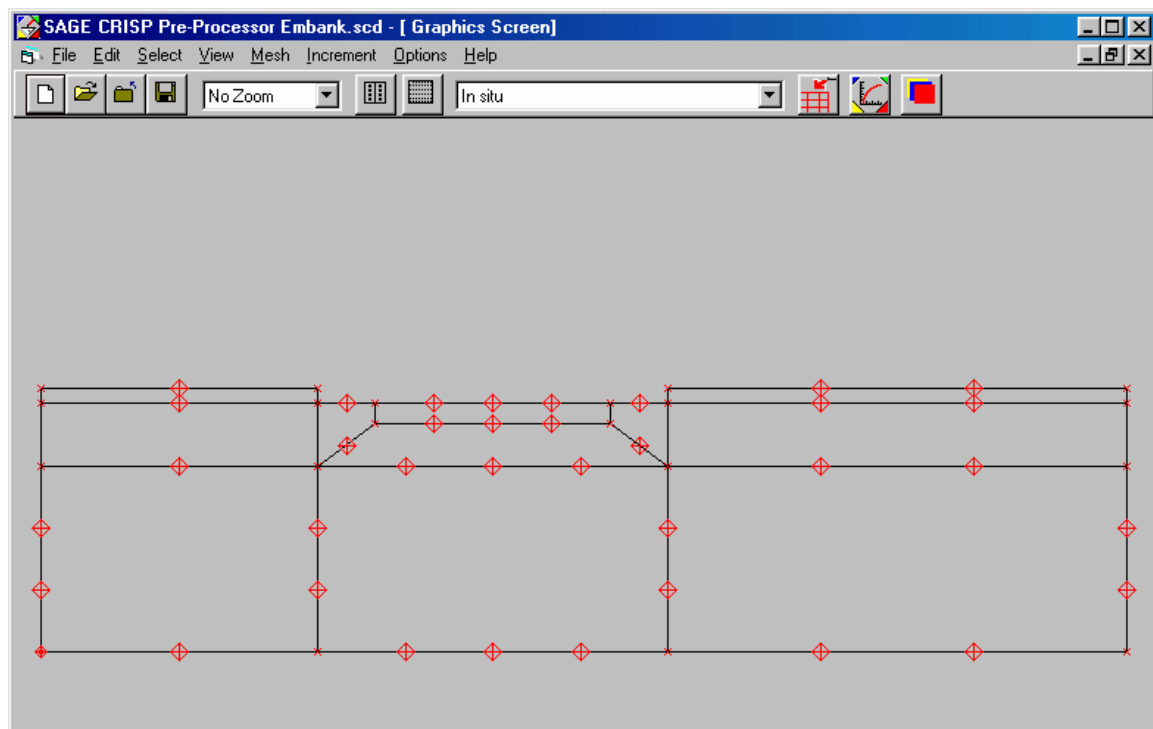

Figure 6-8: Super Edge Gradings
- Step 5** Opposite edges of each element are always graded in identical proportions, so by defining edge gradings for these two edges, gradings have also been automatically defined for six additional edges. Grading markers are shown on the Graphics Window as diamond shape boxes positioned on graded super edges. The mesh should now look similar to Figure 6-8.